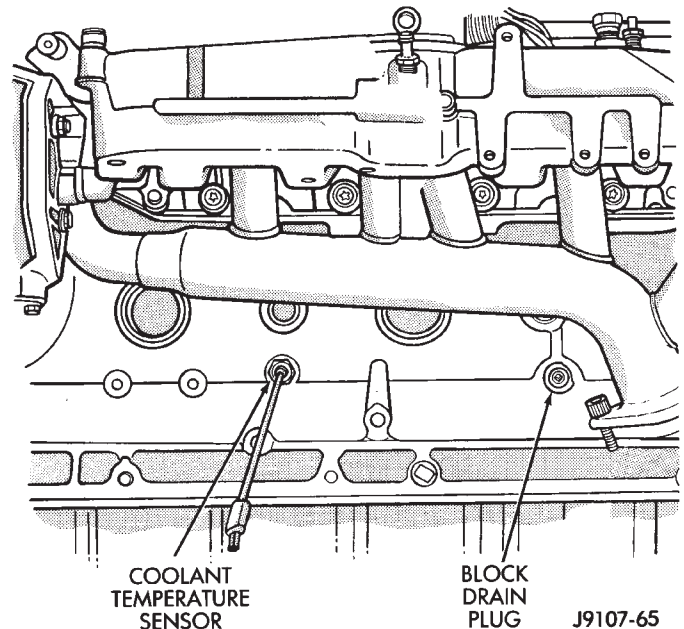

Fig. 3 Drain Plug—4.0L 6 Cylinder Engine
- (4) Remove engine cylinder block drain plug(s) located on the sides of cylinder block above the oil pan rail (Figs. 3 or 4).